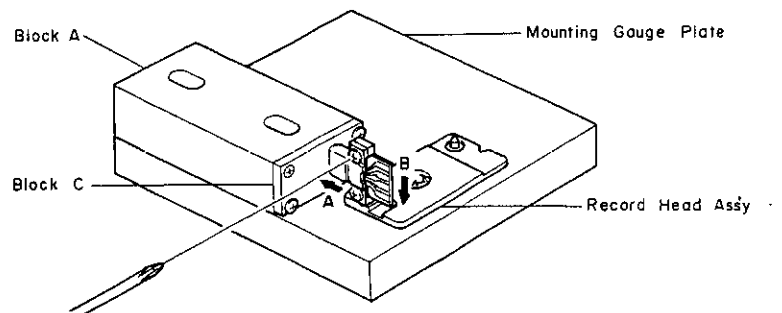

Fig. 4.23
- (5) Remove the Block B from the Mounting Gauge Plate.
- (6) As shown in Fig. 4.23, mount the R-8L record head assembly onto the Mounting Gauge Plate, then check the location of the R-8L record head surface. (If record head contacts to the Block C, loosen 2 pcs. of screws that assemble record head and record head plate, then place the R-8L record head assembly onto the Plate.)
- (7) Remove the R-8L record head assembly from the Mounting Gauge Plate.
- (8) Readjustment of Record Head Mounting Gauge M-9048 (DA09048A)
- (9) Remove the Block B from the Mounting Gauge Plate.
- (10) Mount the R-8L record head assembly onto the Mounting Gauge Plate.
- (11) As shown in the Fig. 4.23, loosen 2 pcs. of screws that assemble record head and record head plate. As the location of the Block A is secured by the item (8)-(c), push the record head to the directions A and B, then tighten 2 pcs. of screws.
- (12) Check to insure freedom from gap between the Block C and record head surface, then tighten the 2 pcs. of screws on the record head assembly with lock tight paint.
- (13) Remove the R-8L record head assembly from the Mounting Gauge Plate.
- (14) Assemble the record head assembly to the head mount base assembly.
- (15) Assemble the head mount base assembly to the mechanism assembly.
- (16) Check the record head stroke.